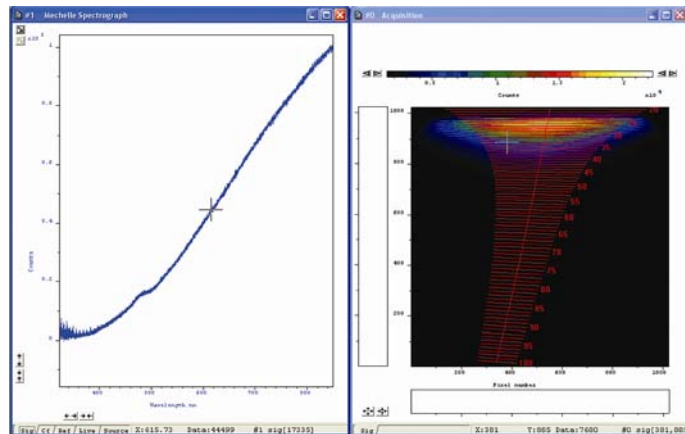

Figure 19: **Sig** tab = Signal after correction
5. **Sig:** the new data after applying the correction factor Cf. An example is shown in figure 19 below.